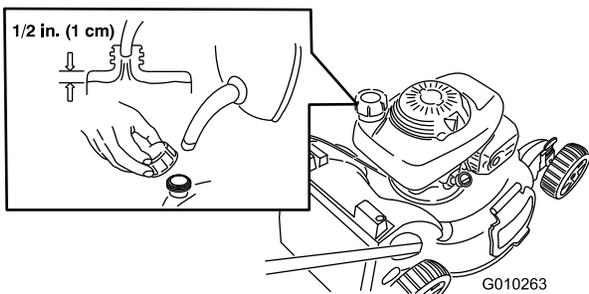

Figure 13
- Clean around the fuel-tank cap, and remove the cap from the tank (Figure 13).